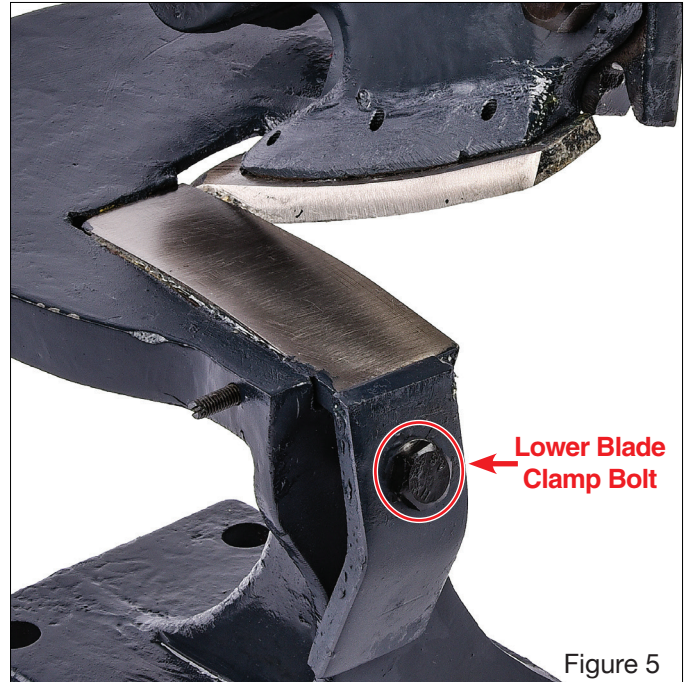

Figure 5
- Loosen lower blade clamp bolt (Figure 5)